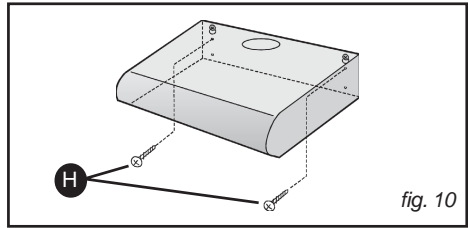

fig. 10
- Place the hood close to the wall and hang it on the two screws; from the inside of the hood, screw the 2 screws in completely. Attach the hood firmly by inserting the other two screws H (Fig. 10).
- Place the hood close to the wall and hang it on the 2 screws; from the inside of the hood, screw the 2 screws in completely. Attach the hood by inserting the other 2 screws H (Fig. 10).